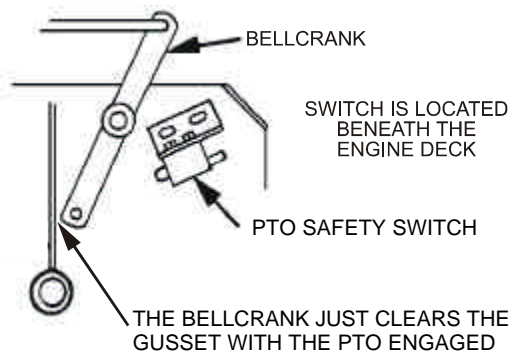
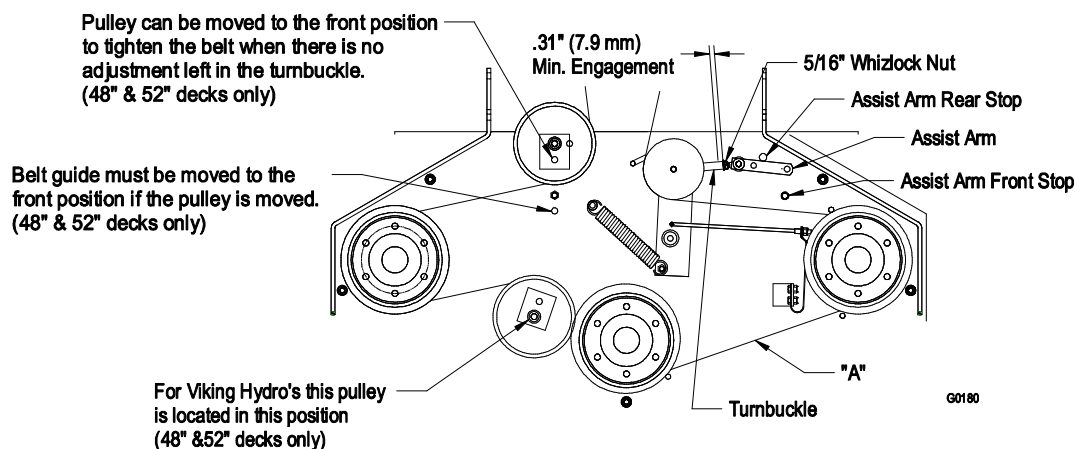

FIGURE 12
FIGURE 13
- b) With PTO engaged (lever pulled up, adjust the linkage length to where the lower end of the bellcrank just clears the axle support gusset (See Figure 12). Make sure the assist arm is against the rear assist arm stop on the deck (See Figure 13). Push the lever down to the disengaged position. The assist arm should contact the front assist arm stop on the deck. If it does not contact, readjust so that the bellcrank is closer to the gusset.
- d) Belt must be tight enough so it does not slip during heavy loads while cutting grass. Over-tensioning will reduce belt and spindle bearing life. To adjust belt tension, loosen the 5/16" whizlock nut on turnbuckle and rotate the turn buckle; rotate turnbuckle toward rear of mower to tighten, and toward front of mower to loosen belt tension (See Figure 13).
For 48" & 52" Decks: If there is no adjustment left in the turnbuckle and the belt is still loose, the rear idler pulley can be repositioned in the front hole (See Figure 13). The belt guide located next to the pulley must also be repositioned in the front hole when the pulley is moved. The turnbuckle will need to be readjusted.
- e) Proper belt tension will require about 10 lbs. (44.5 Nt.) side pull on the belt, halfway between pulleys, to deflect belt 1/2" (1.3 cm). (See Figure 13, Point A).